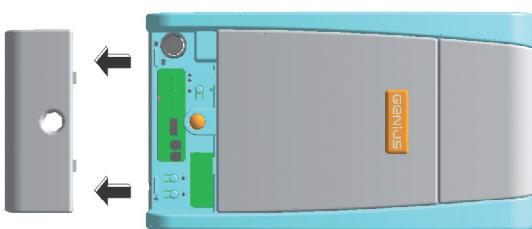

Fig. 28
**☞ The SET UP cycle is carried out with the plastic housing installed. Just remove the rear door (Fig. 28). Grip the rear door with both hands and pull gently downward. When you have finished the procedure described in this chapter, put the door back in place.**